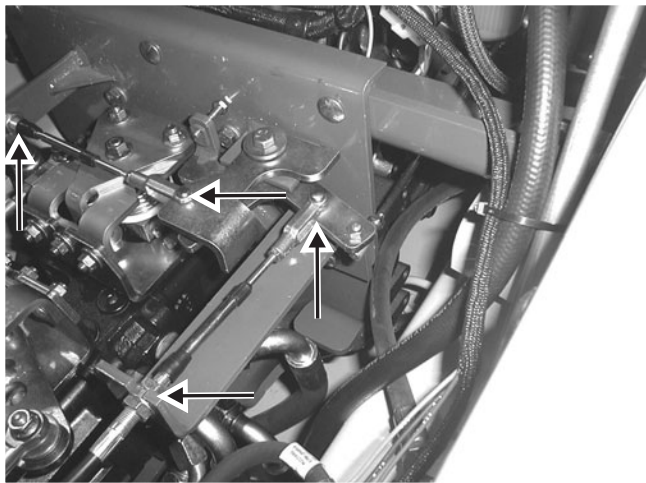

Fig. 10-39 Four possible locations to disconnect throttle cable.
14. Disconnect throttle cable from cable bracket(s) and throttle pivot(s) at engine mount weldment. **Fig. 10-39**